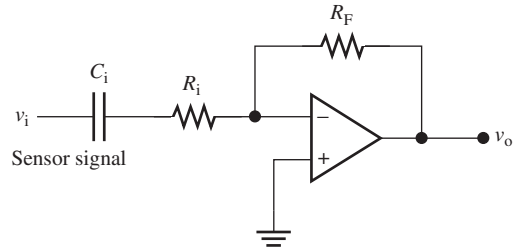

FIGURE P11.24 High-pass, active filter.
- 11.24** (A)* Consider the high-pass, active filter shown in the Figure P11.24. If $v_i(t) = 10 \cos(1000\pi \cdot t)\ \text{V}$, $R_i = 150\ \text{k}\Omega$, $R_F = 200\ \text{k}\Omega$, and $C_i = 200\ \text{pF}$, find $v_o(t)$.